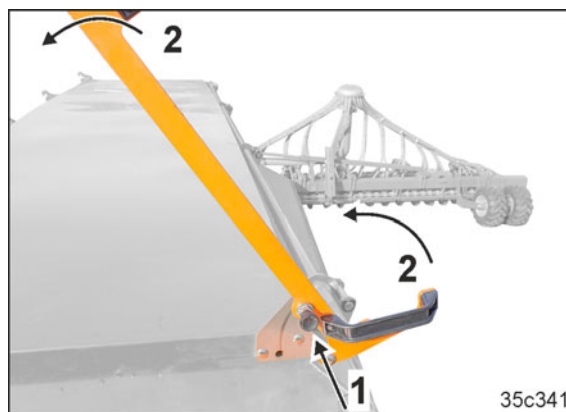

Fig. 222
3. Swivel the lever upwards. Ensure that the spring-loaded pin engages (Fig. 222/1).
The two handles (Fig. 222/2) are used for opening the hopper cover.
The handles (Fig. 222/2) are used to close the hopper cover.